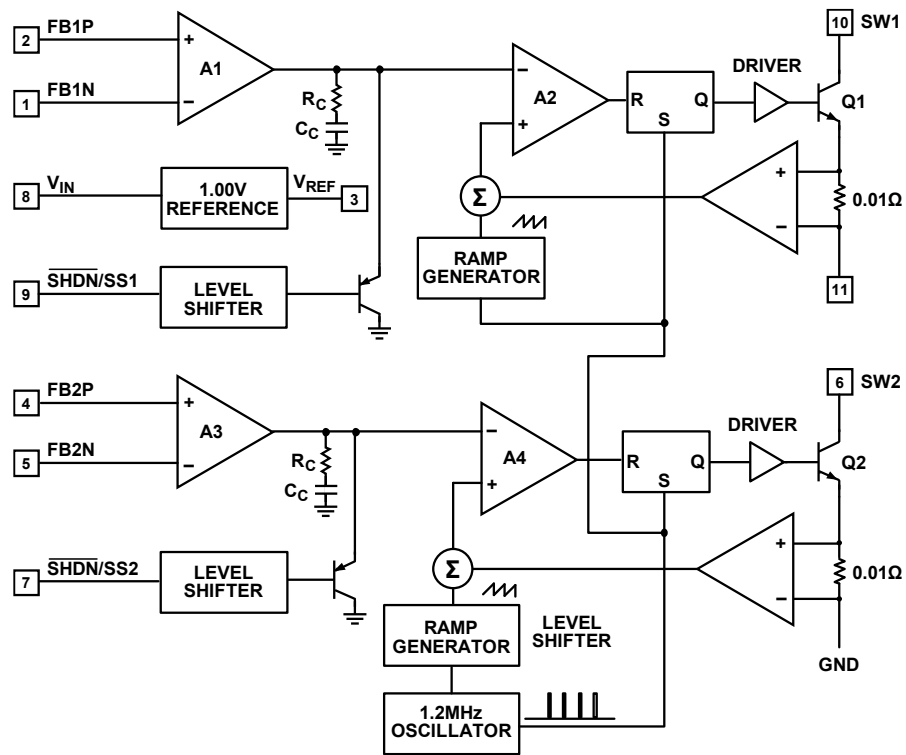

Figure 15. ADPL31613 Block Diagram
The ADPL31613 uses a constant-frequency, current-mode control scheme to provide excellent line and load regulation. See the Figure 15 (Block Diagram) for more details. At the start of each oscillator cycle, the set-reset (SR) latch is set, which turns on the power switch, Q1 (Q2). A voltage proportional to the switch current is added to a stabilizing ramp, and the resulting sum is fed into the positive terminal of the PWM comparator A2 (A4). When this voltage exceeds the threshold at the inverting input of A2 (A4), the SR latch resets, turning off power switch Q1 (Q2). The threshold at the inverting input of A2 (A4) is established by error amplifier A1 (A3) and represents an amplified version of the difference between the feedback voltage and the reference voltage, typically V_{REG} . This control loop adjusts the peak current as required to maintain output voltage regulation. If the error amplifier's output increases, more current is delivered to the output. Similarly, if the error decreases, less current is delivered. Each switcher functions independently, but they share the same oscillator, so they are always in phase. Enabling the device is done by taking either the $\overline{SHDN}/SS$ pin above 1.8V.
The device is disabled when both $\overline{SHDN}/SS$ pins are held low. The soft-start feature of the ADPL31613 enables clean start-up by limiting the output voltage rise of comparators A1 and A2, which in turn limits the peak switching current. The soft-start feature for each switcher is enabled by slowly ramping that switcher's $\overline{SHDN}/SS2$ pin, using an RC network. For example, typical resistor and capacitor values are 0.33 μ F and 4.7k Ω , allowing for a start-up time on the order of milliseconds. The ADPL31613 has a current-limit circuit that is not shown in the Figure 15 (Block Diagram).
The switch current is continuously monitored and must not exceed the maximum switch current (typically 1.6A). If the switch current reaches this value, the SR latch is reset regardless of the state of the comparator A2 (A4). The thermal shutdown circuit is also not shown in Figure 15 (Block Diagram). If the device temperature exceeds approximately 160°C, both latches are reset regardless of the state of comparators A2 and A4. The current-limit and thermal-shutdown circuits protect the power switch and the external components connected to the ADPL31613.